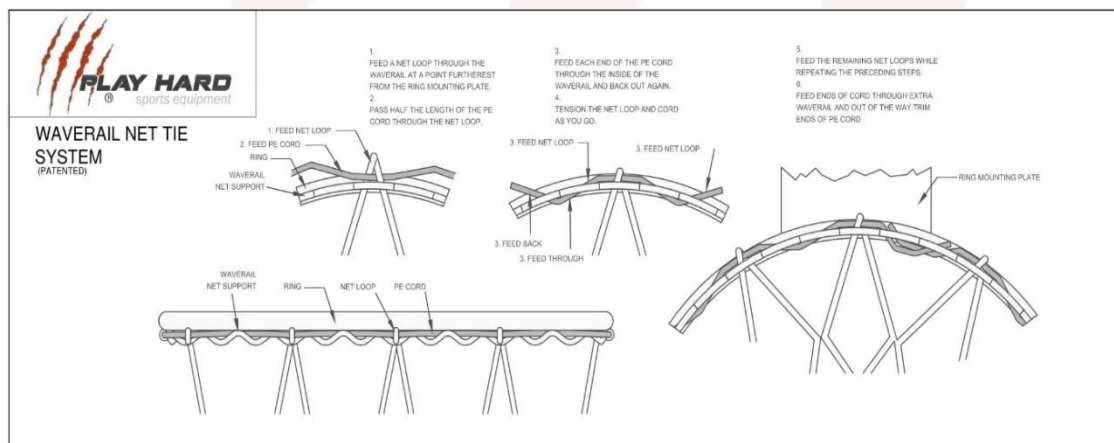

Figure 4: Waverail Net Tie System
- Attach the net to the ring using the patented Waverail net tie system. Most of our rings have net already attached to them. If needed, please refer to Figure 4 for further information.